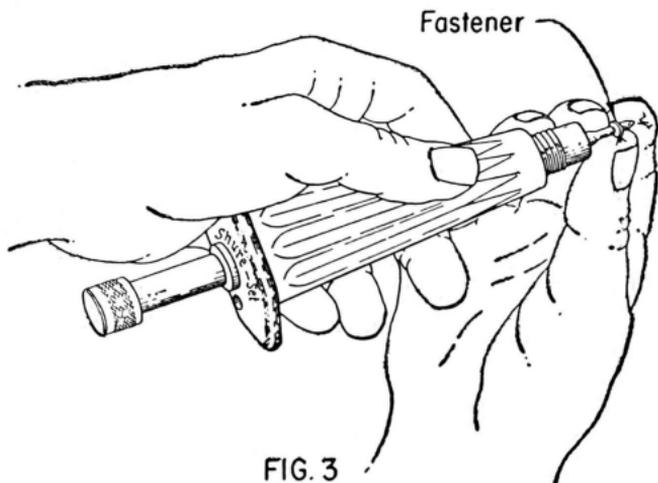

FIG. 3
- 3.01 Pull ram out far enough for the fastener to be properly seated in the end of the applicator. See Fig. 3.